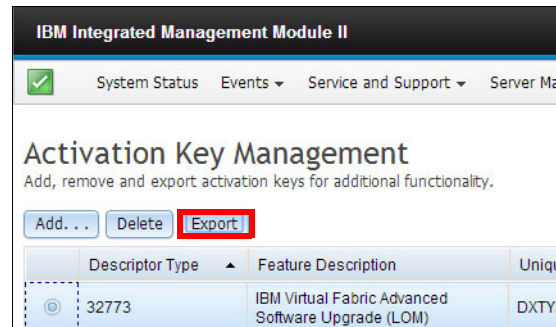

Figure 3-11 Export activation key
2. In the Activation Key Management window, click **Export**, as shown in Figure 3-11.